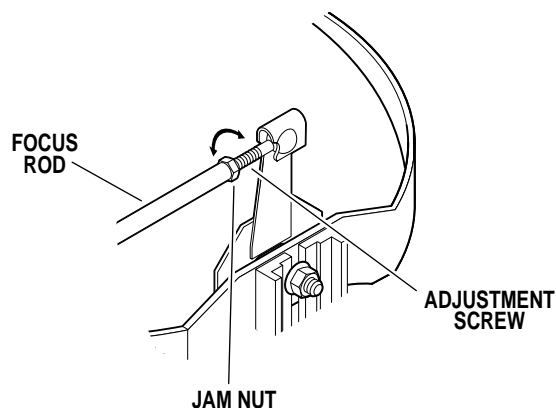

Figure 1-4.
d. To adjust a misaligned bulb holder, loosen the jam nut on the affected focus rod and turn the adjustment screw as needed to achieve proper alignment. See figure 1-4.